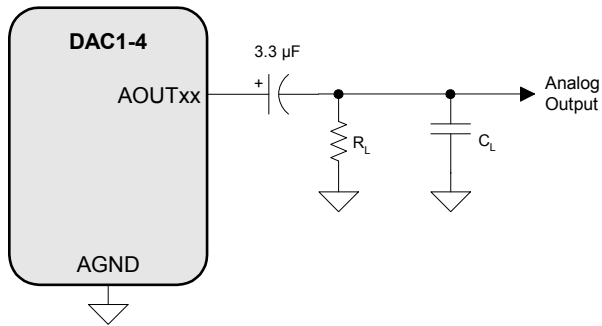

Figure 2. Output Test Circuit for Maximum Load
- Guaranteed by design. See Figure 2. R_L and C_L reflect the recommended minimum resistance and maximum capacitance required for the internal op-amp's stability and signal integrity. In this circuit topology, C_L will effectively move the dominant pole of the two-pole amp in the output stage. Increasing this value beyond the recommended 100 pF can cause the internal op-amp to become unstable. See "External Filters" on page 52 for a recommended output filter.